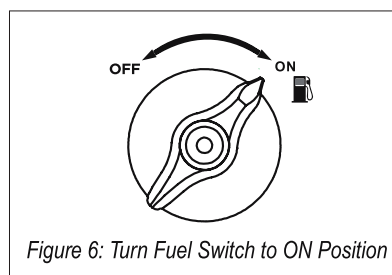

Figure 6: Turn Fuel Switch to ON Position
5. Turn the Fuel Control Switch to the ON position (see Figure 6).
4. Turn the Fuel Control Switch to the ON position (see Figure 6).
3. Confirm that the Fuel Control Switch is in the ON position (see Figure 6).